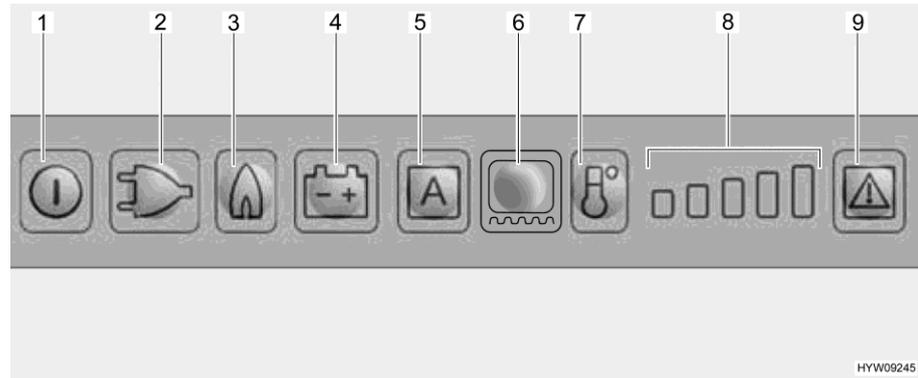

Fig. 160 LED operating panel (Dometic refrigerator)
Ignition fuse When selecting gas operation the ignition fuse is opened automatically so gas can get into the burner. At the same time the electronic ignition is activated. If the gas flame is extinguished, e.g. by blast of wind, the ignition is activated immediately and re-ignites the gas. If there is a fault in gas operation, the illuminated buttons for Gas (Fig. 160,3) and Fault (Fig. 160,9) flash and an alarm sounds for 20 seconds.
Switching on: ■ Press and hold the On/Off button (Fig. 160,1) for about 2 seconds. The refrigerator switches on and the previously set operating mode is displayed.
Selecting operating mode: ■ Press the illuminated button for the desired operating mode (Fig. 160,2 - 4) or the automatic mode "AES" (Fig. 160,5) (only in the case of AES version).
- Use the cooling level button (Fig. 160,7) to set the refrigerating temperature. The cooling level indicator (Fig. 160,8) shows the selected thermostat setting.
- Press and hold the On/Off button (Fig. 160,1) for about 2 seconds.
When turned on the first time the refrigerator automatically selects the middle thermostat position. This position can be adjusted manually using the cooling level button (Fig. 160,7). It takes a few hours till the refrigerator reaches its normal operating temperature. When changing over to another operating mode, the thermostat setting is kept.
- Switch on the frame heater for a 2 hour period: Push the frame heater illuminated button (Fig. 160,6) once. One bar is lit on the cooling level indicator (Fig. 160,8).
- Switch on the frame heater for a 5 hour period: Push the frame heater illuminated button (Fig. 160,6) twice. Two bars are lit on the cooling level indicator (Fig. 160,8).
- Setting frame heater for continuous operation: Push the frame heater illuminated button (Fig. 160,6) three times. Three bars are lit on the cooling level indicator (Fig. 160,8).
The cooling level indicator (Fig. 160,8) shows the operating time of the frame heater for several seconds.
In the event of a fault, the illuminated Fault button (Fig. 160,9) will flash. Also, either one of the illuminated buttons for operating mode or the cooling level indicator will flash. In addition, a warning signal will sound. For instructions on the display of errors and troubleshooting, see chapter 15.
- ▷ After eliminating a fault of the gas operation, press the illuminated Reset button (Fig. 160,9).